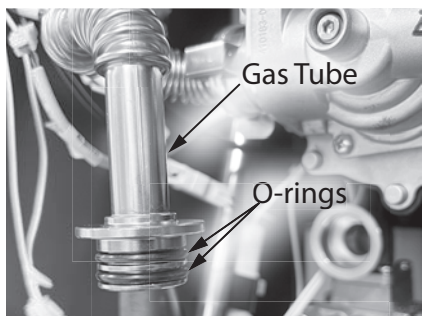

Figure 79 - O-ring replacement (two o-rings)
- 14** Install the two new O-rings on the gas tube as shown in Figure 79.